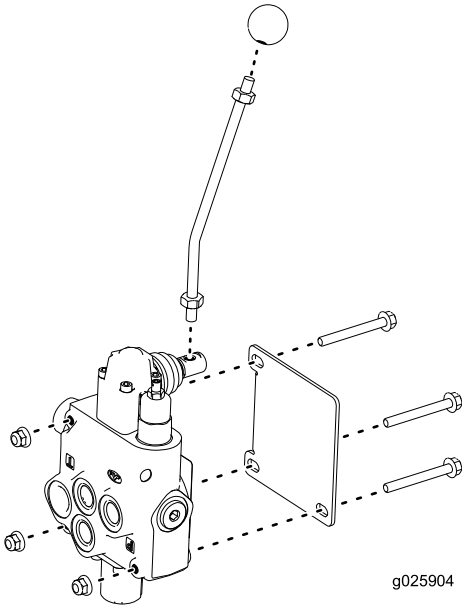

Figure 11
1. Attach the bracket to the valve using the 3 bolts and 3 nuts shown in Figure 11.